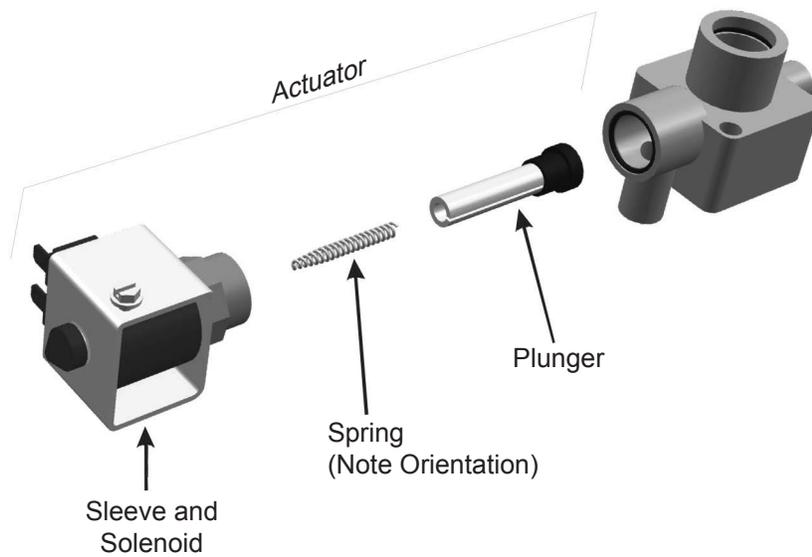

Figure 36: Drain Valve Actuator Assembly
7. Reassemble actuator making sure tapered end of spring is oriented as shown in Figure 36. Tighten brass nut 1/4 turn past hand tight.